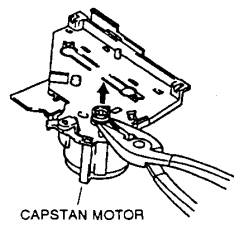

Fig. 11
- Remove the capstan motor pulley. Do not bend the capstan motor shaft (fig. 11).